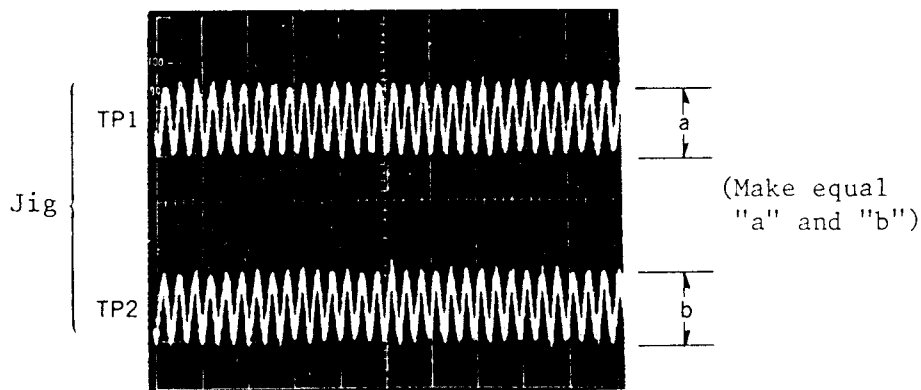

Fig. 2-10
- ③ Connect the low frequency oscillator set to 1.5 kHz and 150 mV_{p-p} to the terminals OSC and GND.
- ④ Turn on the power supply switch.
- ⑤ Place the test disc (SZZP1014F) and set the player to the playing condition.
- ⑥ 1.5 kHz signals are displayed on the oscilloscope. Adjust VR102 so that the amplitudes of waveforms of the two channels shall be equal as shown in Fig. 2-10.
- ⑦ Turn off the power supply switch.